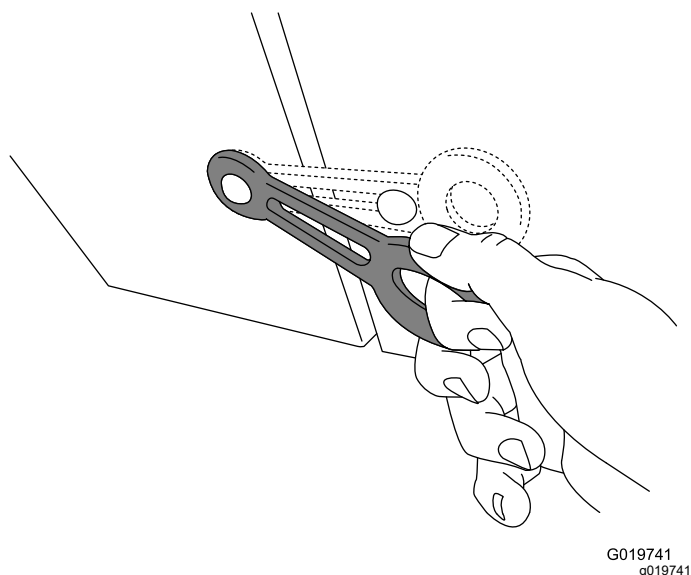

Figure 15
4. Close the engine cowl and secure the cowl latches (Figure 15).